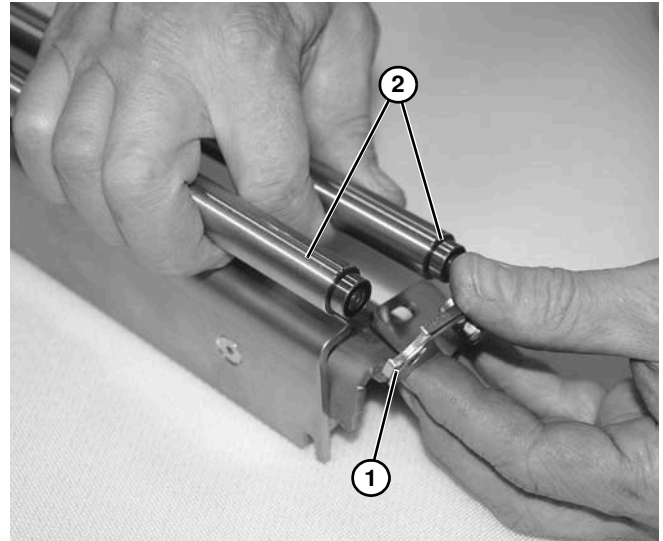

Figure 81
4. Remove nosebar tail from the conveyor and place on an open work surface. On one side of nosebar tail, remove fastening screws (**Figure 81, item 1**) from inner and outer plates (**Figure 81, item 2**).
5. Remove outer plate (**Figure 81, item 1**) from spindles (**Figure 81, item 2**).